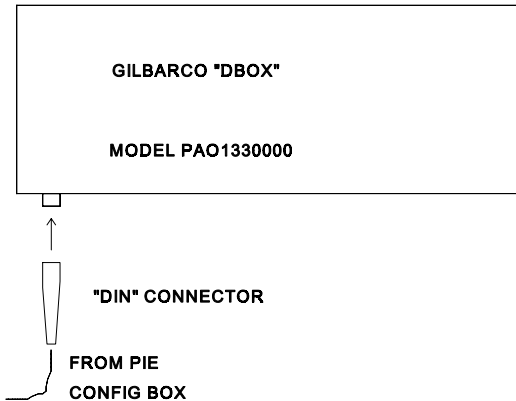

Figure 4: Gilbarco PAO1330000 "D" Box
2. Locate the appropriate pump connection cable. Connect the DIN or D-sub connector to the Gilbarco "D" box. The various "D" box models are illustrated in Figures 4, 5 and 6.